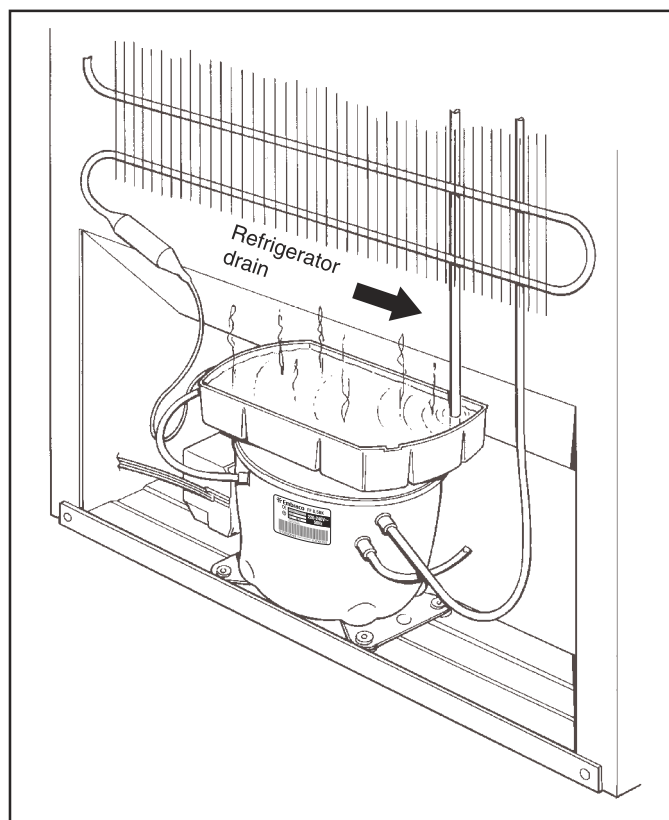

Figure 6
- 6) Assembly in the correct position guarantees ideal heat transfer to the tray and maximum water volume storage. See figure 6.